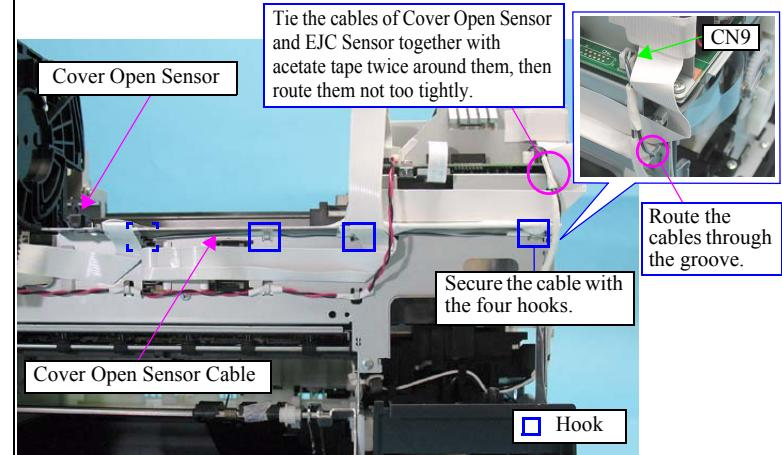

Figure 4-46. Installing the Cover Open Sensor
- Disconnect the Cover Open Sensor Cable from CN9 connector on the Main Board. See Figure 4-46.